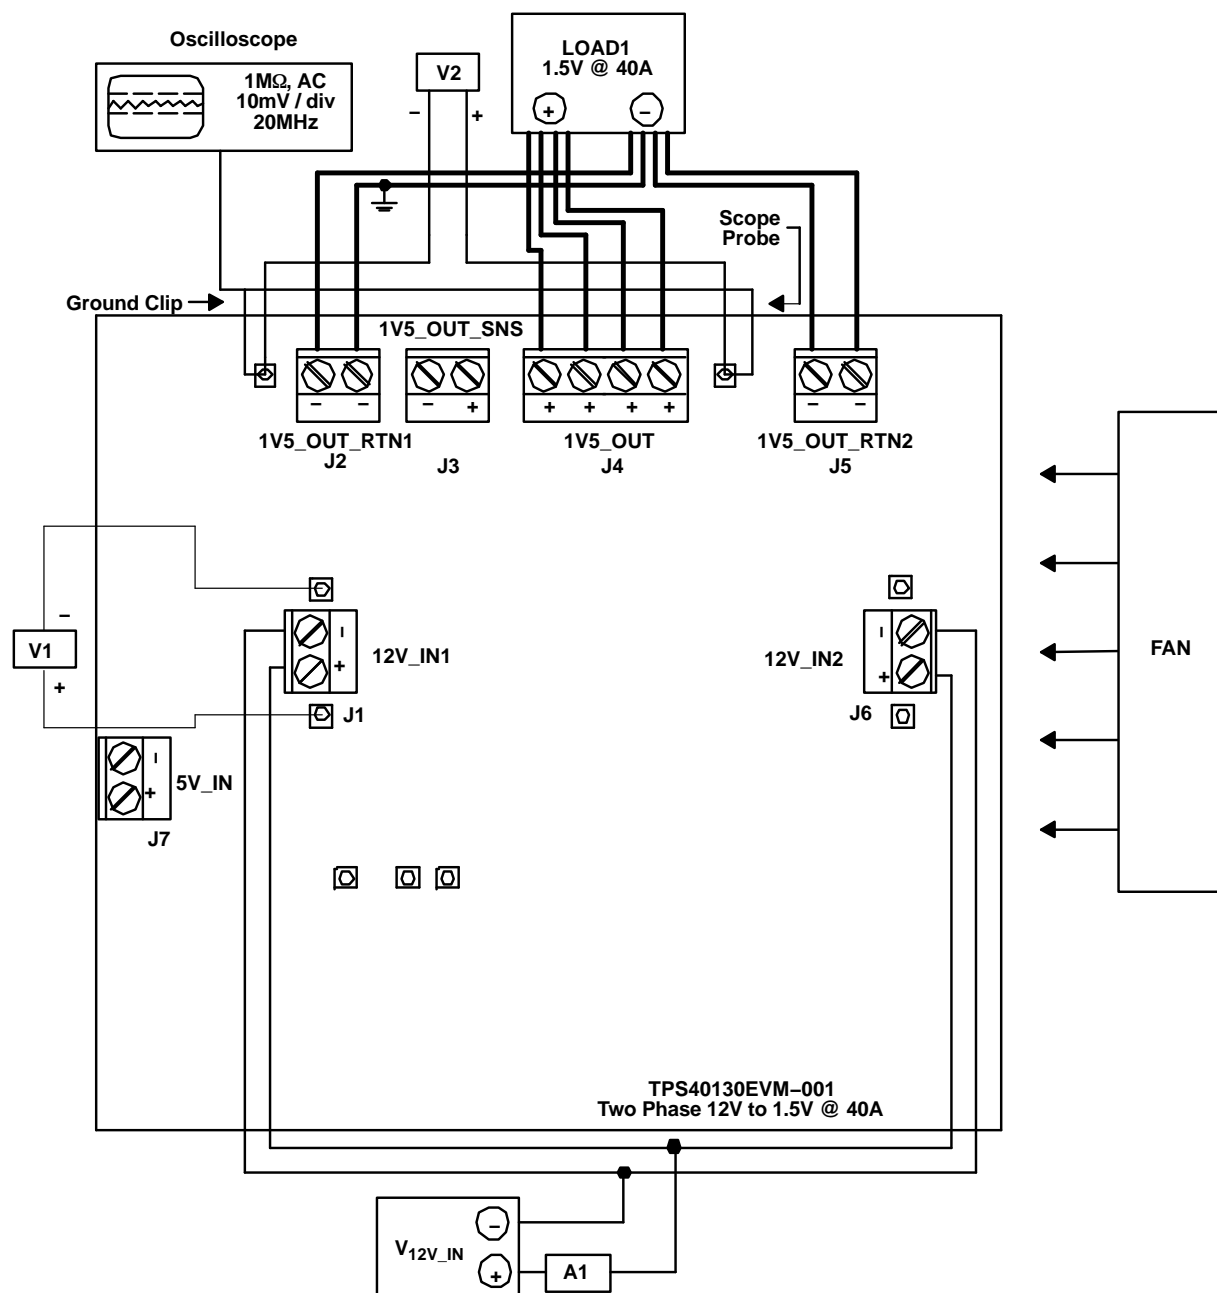

Figure 3. TPS40130EVM-001 Recommended Test Setup
Shown in Figure 3 is the basic test setup recommended to evaluate the TPS40130EVM-001. Note that although the return for J1, J2, J5, and J6 are all the same, the connections should remain separate as shown in Figure 3.
2. Prior to connecting the dc input source, V_{12V_IN} , it is advisable to limit the source current from V_{12V_IN} to 7.0 A maximum. Make sure V_{12V_IN} is initially set to 0 V and connected as shown in Figure 3.
3. Connect the ammeter A1 (0-A to 7-A range) between V_{12V_IN} and J1 and J2 as shown in Figure 3.
4. Connect voltmeter V1 to 12V_IN + and 12V_IN- as shown in Figure 3.
6. Connect voltmeter, V2 across 1V5_OUT + and 1V5_OUT - as shown in Figure 3.
7. Place fan as shown in Figure 3 and turn on, making sure air is flowing across the EVM.